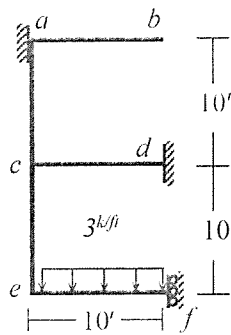

Fig.2
2. Use stiffness method (neglecting axial deformations) to calculate deflection at joint  $f$ , rotations of joints  $c$  and  $e$  of the frame  $abcdef$  loaded as shown in Fig.2